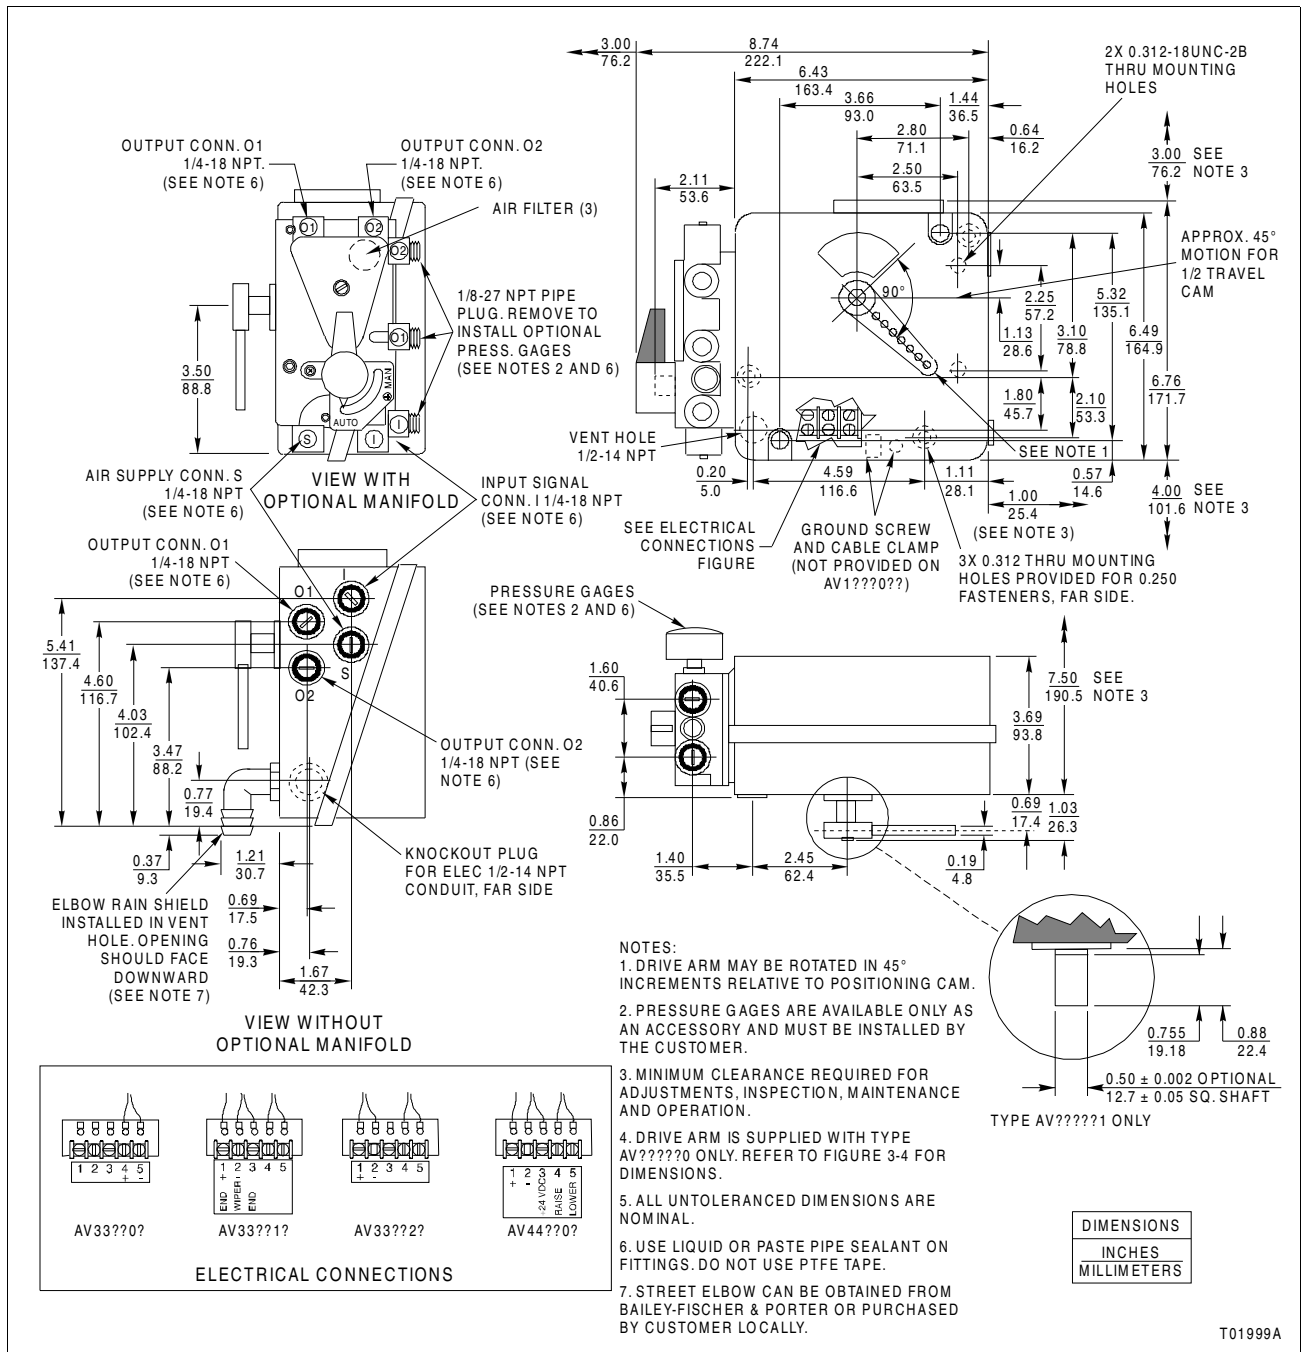
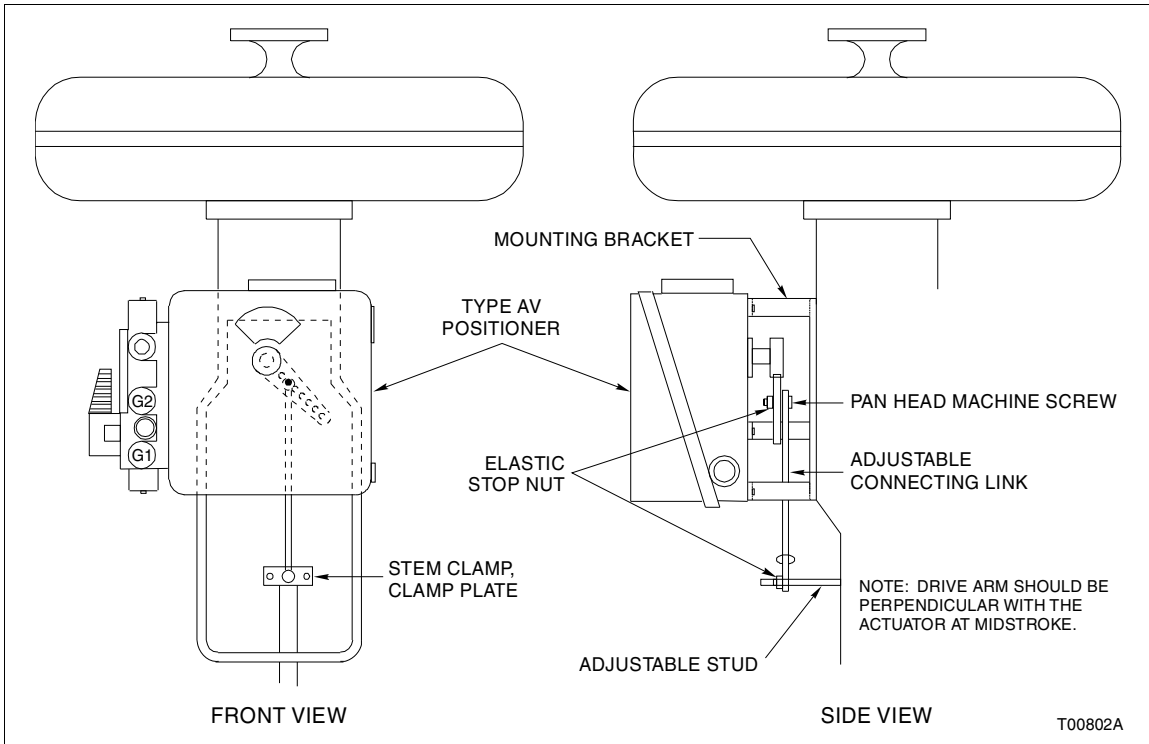
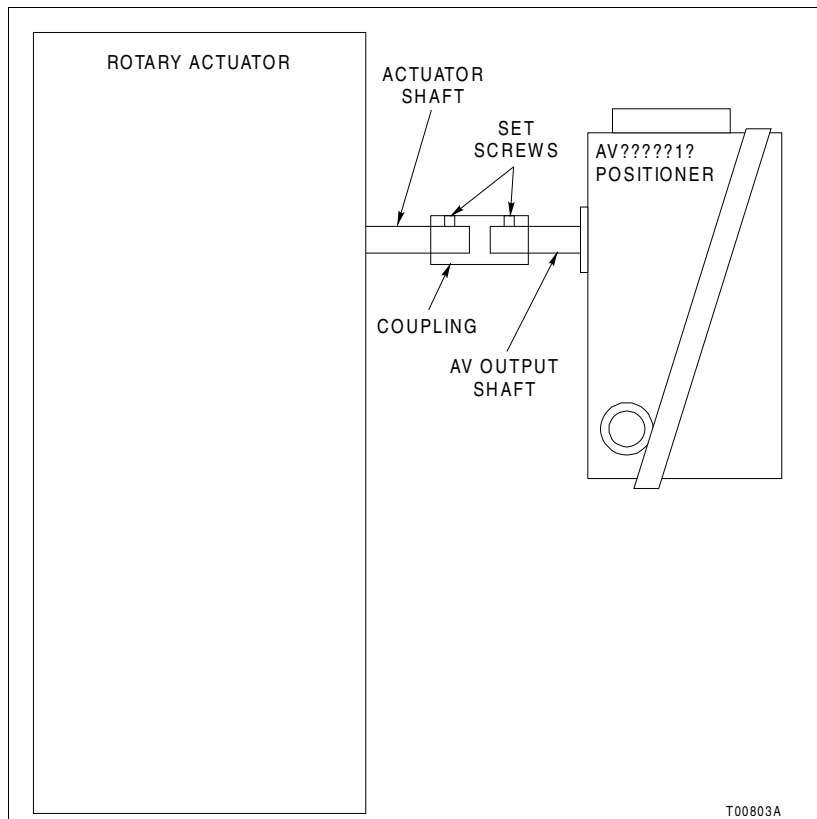

Figure 3-1. External and Mounting Dimensions for the Type AV Positioner
Figure 3-2. Typical Positioner Mounting Using Linkage
Figure 3-3. Typical Positioner Mounting Using Direct Coupling
The Type AV3 and Type AV4 positioners conform to NEMA 3R when a ½-14 NPT street elbow (Fig. 3-1) is installed into the vent hole on the housing. The elbow prevents water or other liquid from entering the enclosure. The position of the elbow is related to the mounting plane of the positioner in its service location. The elbow must be positioned to face downward. The enclosure also meets corrosion resistance requirements for NEMA 4X classification (NEMA 250).
1. **Access to the internal positioner housing** - the mounting location should provide enough room to remove the cover in order to perform calibration and repair and replacement procedures inside the positioner. Refer to Figure 3-1 for positioner dimensions.
The Type AV positioner can be used with double-acting or single-acting actuators. Mounting and external dimensions are shown in Figure 3-1. Figure 3-2 shows a typical mounting arrangement using a mounting kit (part number 5327321__). Refer to Figure 9-2 for an exploded view and complete parts list of kit. If using the positioner with a rotary actuator, the positioner can be directly connected to the actuator, as shown in Figure 3-3.
NOTE: Route the wiring inside the positioner so it does not become entangled with moving parts. A cable clamp (Fig. 3-1 or 4-1) is provided inside the positioner so entanglement can be avoided.